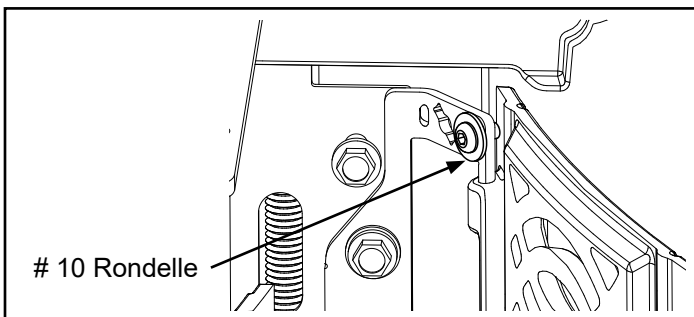

Figure 5.22
Note: On models with porcelain finish, there may be some cases where the cast side panels come in contact with the cast wings. There are (4) #10 screws and flat washers located on the hinge plates that can be used for adjustment. The washers can be removed to allow for less travel. Figure 5.22.